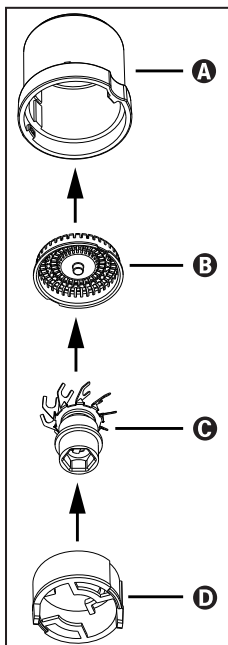

Fig. 1
- 5) To re-assemble, insert the cutting head cover **B** into the shaving head housing **A** so that the indentations on the cutting head cover **B** slide into the catches on the inside of the cutting head cover **A** (see fig. 1).
- 7) Push the connecting piece **D** into the cutting head housing **A**. The protruding spacer of the connecting piece **D** must point towards you (see fig. 1). Ensure that the indentations on the cutting head cover **D** slide into the catches on the inside of the cutting head cover **A**.